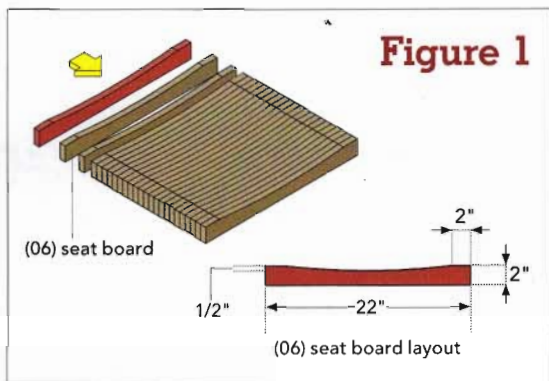

Figure 1
- Following the (06) seat board layout in Figure 1, cut out one (06) seat board. Mark it as your pattern. **Note:** The (06) seat boards are ripped from 1 x 8s and a 1 x 4.
- Trace the seat pattern onto the remaining (06) seat boards, and cut the boards to shape. **Note:** You can temporarily attach several boards together, and then cut them to shape on a band saw.
- Apply glue to the faces of the (06) seat boards, and clamp them together as shown in Figure 1. Allow the glue to dry overnight.